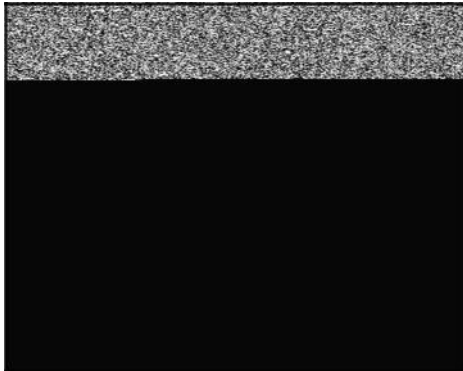
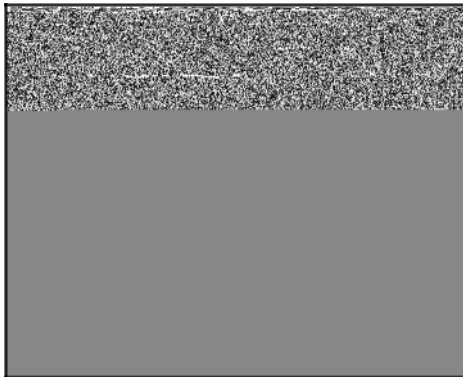

Figure 26
Figure 27
- Oil Sensor (A, Figure 26 and Figure 27) (located inside crankcase)
- Module (B)
- Three-terminal stop switch (C)